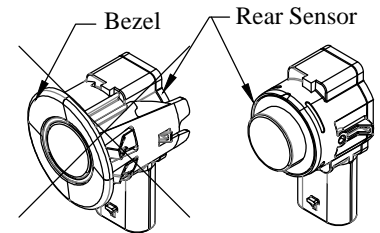

Figure 1: Rear sensor - no bezel.
- 2. Remove and Save** the rear sensors and wire harness from the bumper. Do not reuse the factory mounting bezel (Figure 1), doing so may position the rear sensors incorrectly.